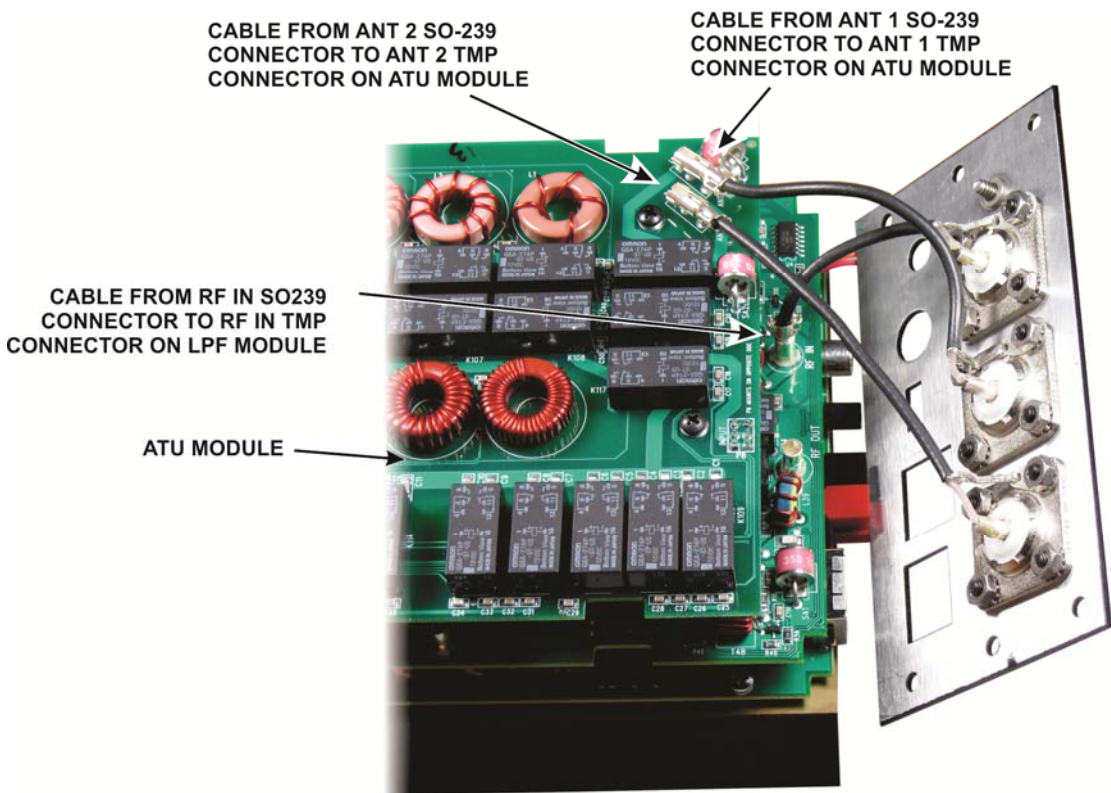
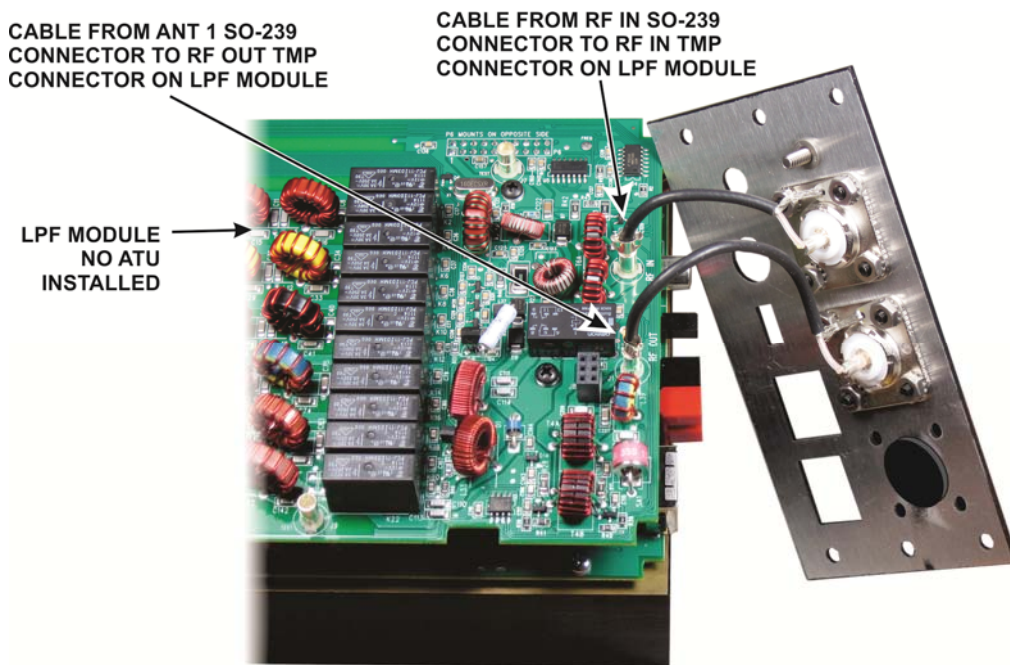

Figure 20. Rear Panel RF Cable Connections with ATU.
Figure 21. Rear Panel RF Cable Connections with No ATU.
⚠ If you removed the bottom cover, be sure you have not dislodged any of the TMP connectors on the coaxial cables that attach to the pc boards in the KXPA100 (see *Figure 20. Rear Panel RF Cable Connections with ATU.* on page 50 or *Figure 21. Rear Panel RF Cable Connections with No ATU.* on page 51).
- If you have the KXAT100 ATU installed, see Figure 20.
- If you do not have the KXAT100 ATU installed, see Figure 21.